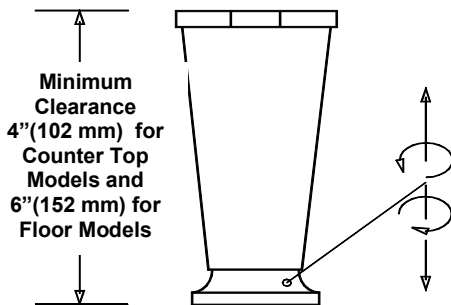

Fig. 1
3. Level the unit by turning the bottom part of each leg clockwise or counterclockwise (Fig. 1). The machine **MUST** be level to operate properly.